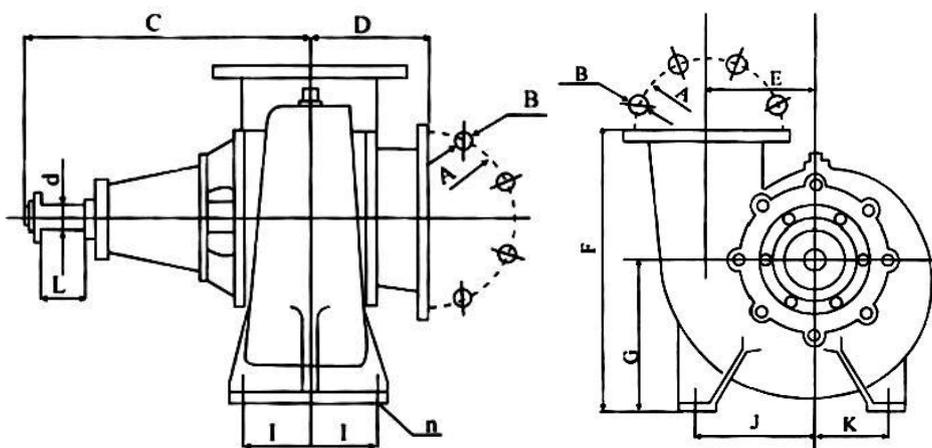

Figure 4 100HW-300HW and 350HW-8 Pumps with Water Discharge Upwards
(1) HW type pump and external installation drawing are shown in Figures 4 and 5
(2) The external installation dimensions of HW type pump are shown in Table 6.